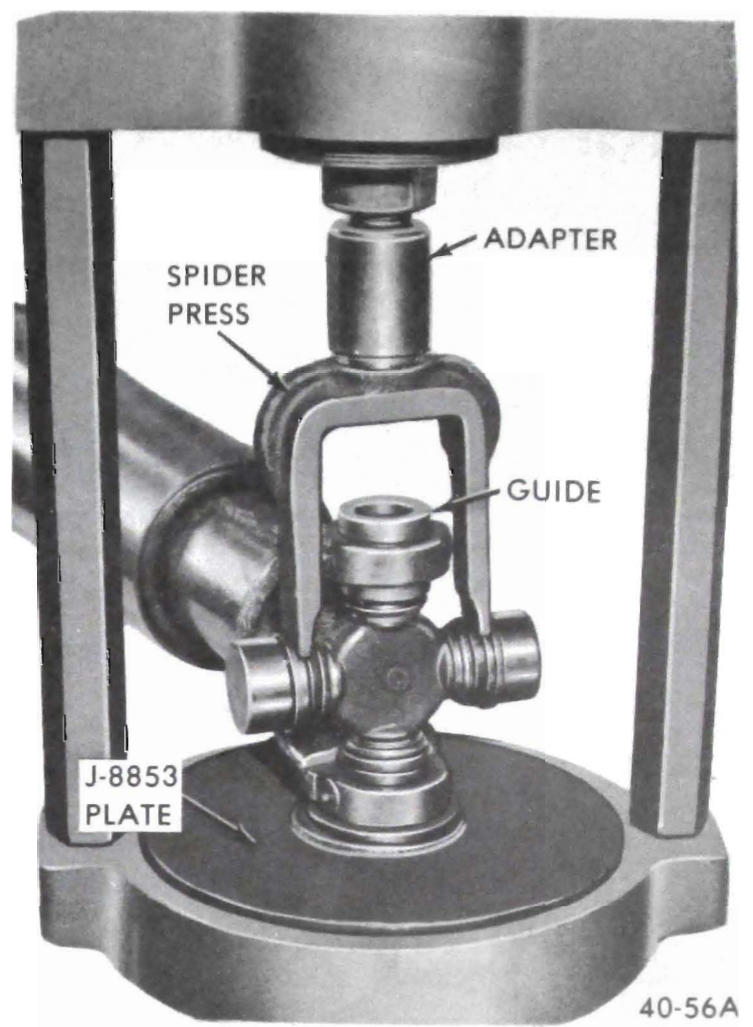

Figure 40-61 - Pressing Out U-Joint Bearing With Guide Installed
4. Position propeller shaft as before and use spider press and power ram hydraulic pump to shear the nylon injection ring and remove the opposite bearing. See Figure 40-61.